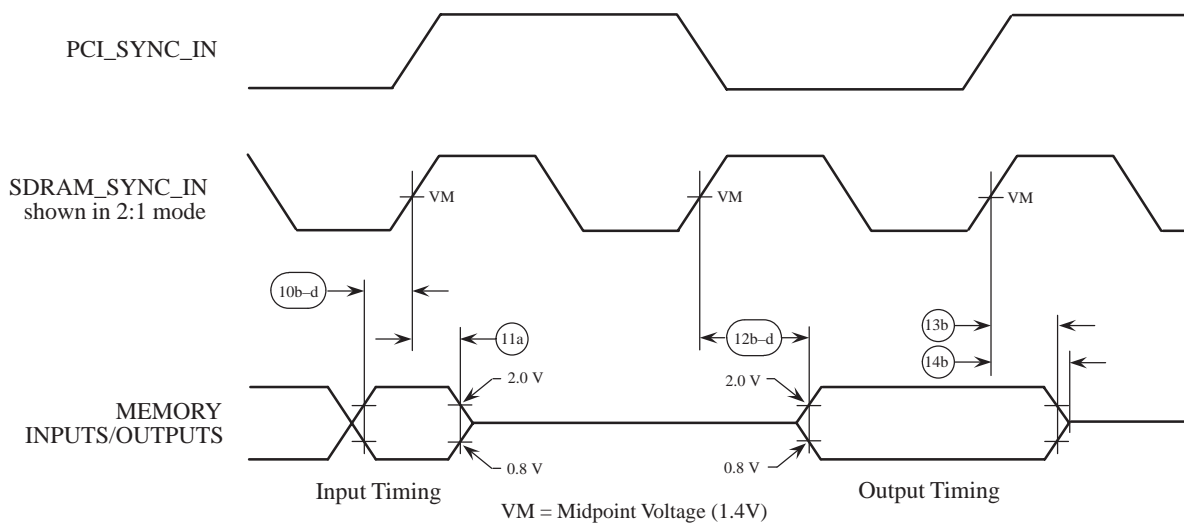
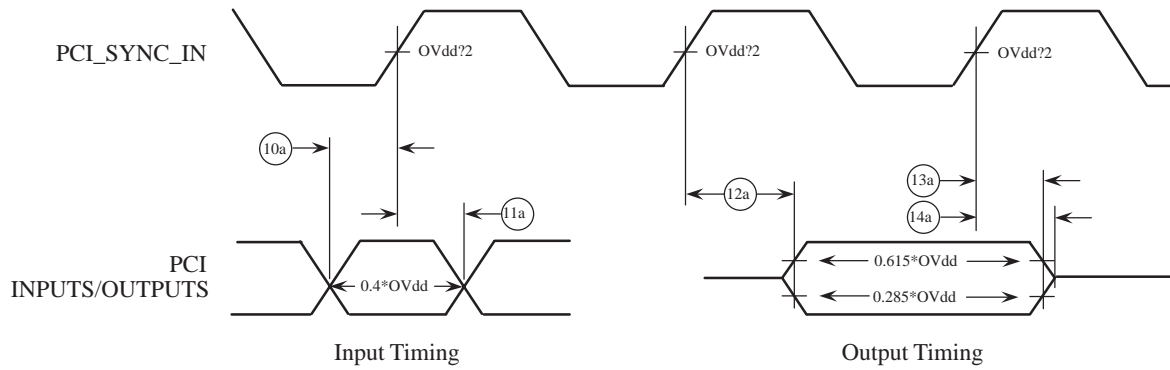

Figure 10: Input - Output Timing Diagram Referenced to SDRAM_SYNC_IN
Figure 11: Input - Output Timing Diagram Referenced to PCI_SYNC_IN
Table 10 provides the input AC timing specifications. See Figure 10 and Figure 11.
- All memory and related interface input signal specifications are measured from the TTL level (0.8 or 2.0 V) of the signal in question to the $V_M = 1.4$ V of the rising edge of the memory bus clock, SDRAM_SYNC_IN. SDRAM_SYNC_IN is the same as PCI_SYNC_IN in 1:1 mode, but is twice the frequency in 2:1 mode (processor/memory bus clock rising edges occur on every rising and falling edge of PCI_SYNC_IN). See Figure 10.
- All PCI signals are measured from OVdd/2 of the rising edge of PCI_SYNC_IN to 0.4*OVdd of the signal in question for 3.3 V PCI signaling levels. See Figure 11.
Table 11 provides the processor bus AC timing specifications for the PC8240. See Figure 10 and Figure 11.
- 1 All memory and related interface output signal specifications are specified from the $V_M = 1.4$ V of the rising edge of the memory bus clock, SDRAM_SYNC_IN to the TTL level (0.8 or 2.0 V) of the signal in question. SDRAM_SYNC_IN is the same as PCI_SYNC_IN in 1:1 mode, but is twice the frequency in 2:1 mode (processor/memory bus clock rising edges occur on every rising and falling edge of PCI_SYNC_IN). See Figure 10.
- 2 All PCI signals are measured from OVdd/2 of the rising edge of PCI_SYNC_IN to 0.285*OVdd or 0.615*OVdd of the signal in question for 3.3 V PCI signaling levels. See Figure 11.